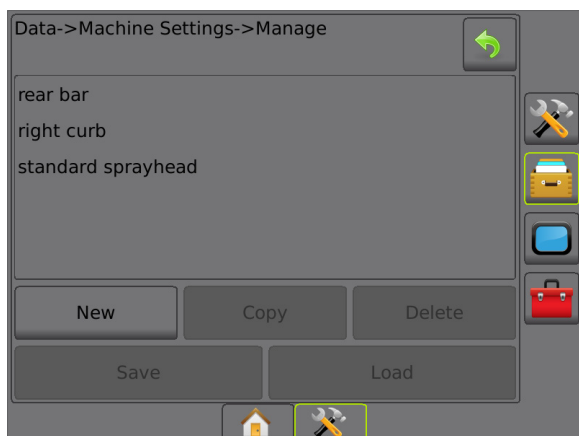

Figure 10 - Machine settings management screen
- Press the Manage button to display the Machine Settings Management screen, Figure 10.